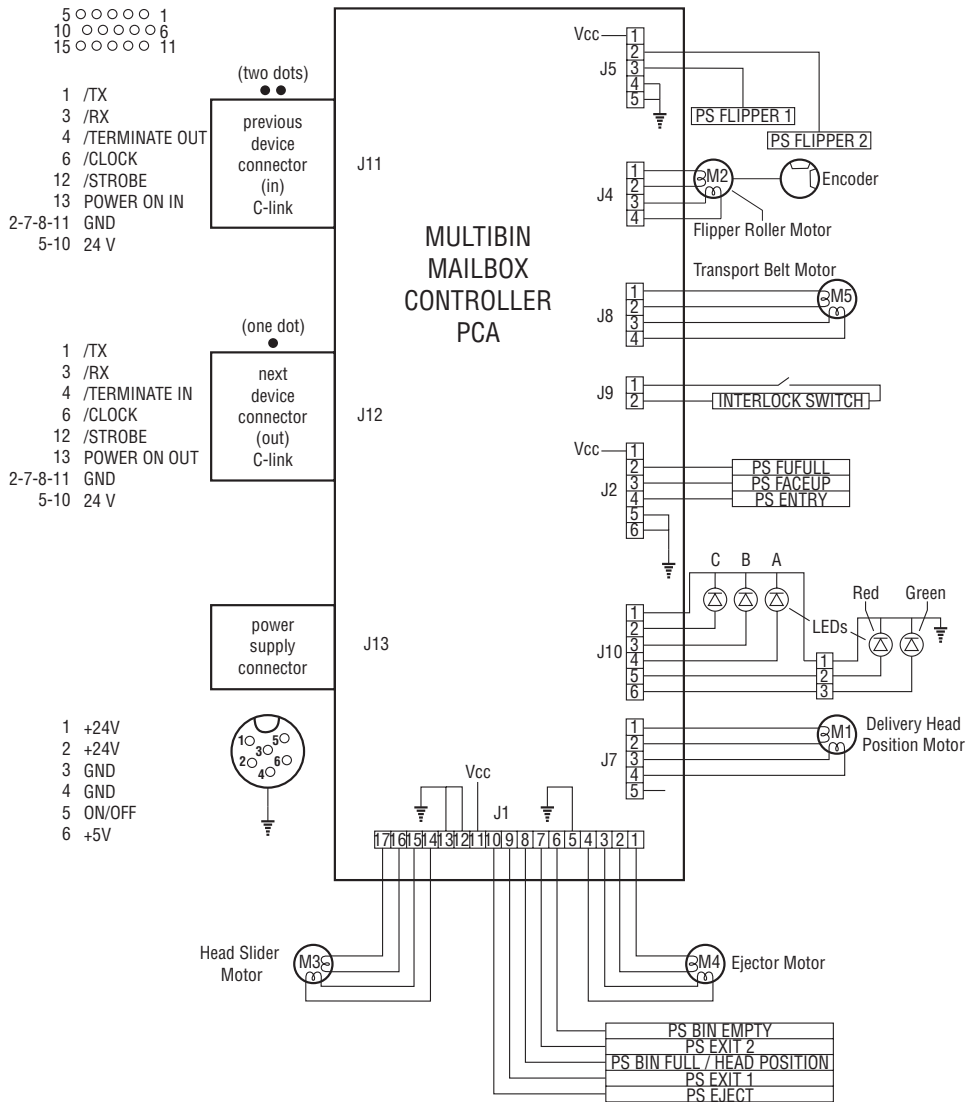

Figure 7-29 8-bin Mailbox Main Wiring Diagram
- Figure 7-29, “8-bin Mailbox Main Wiring Diagram,” on page 510